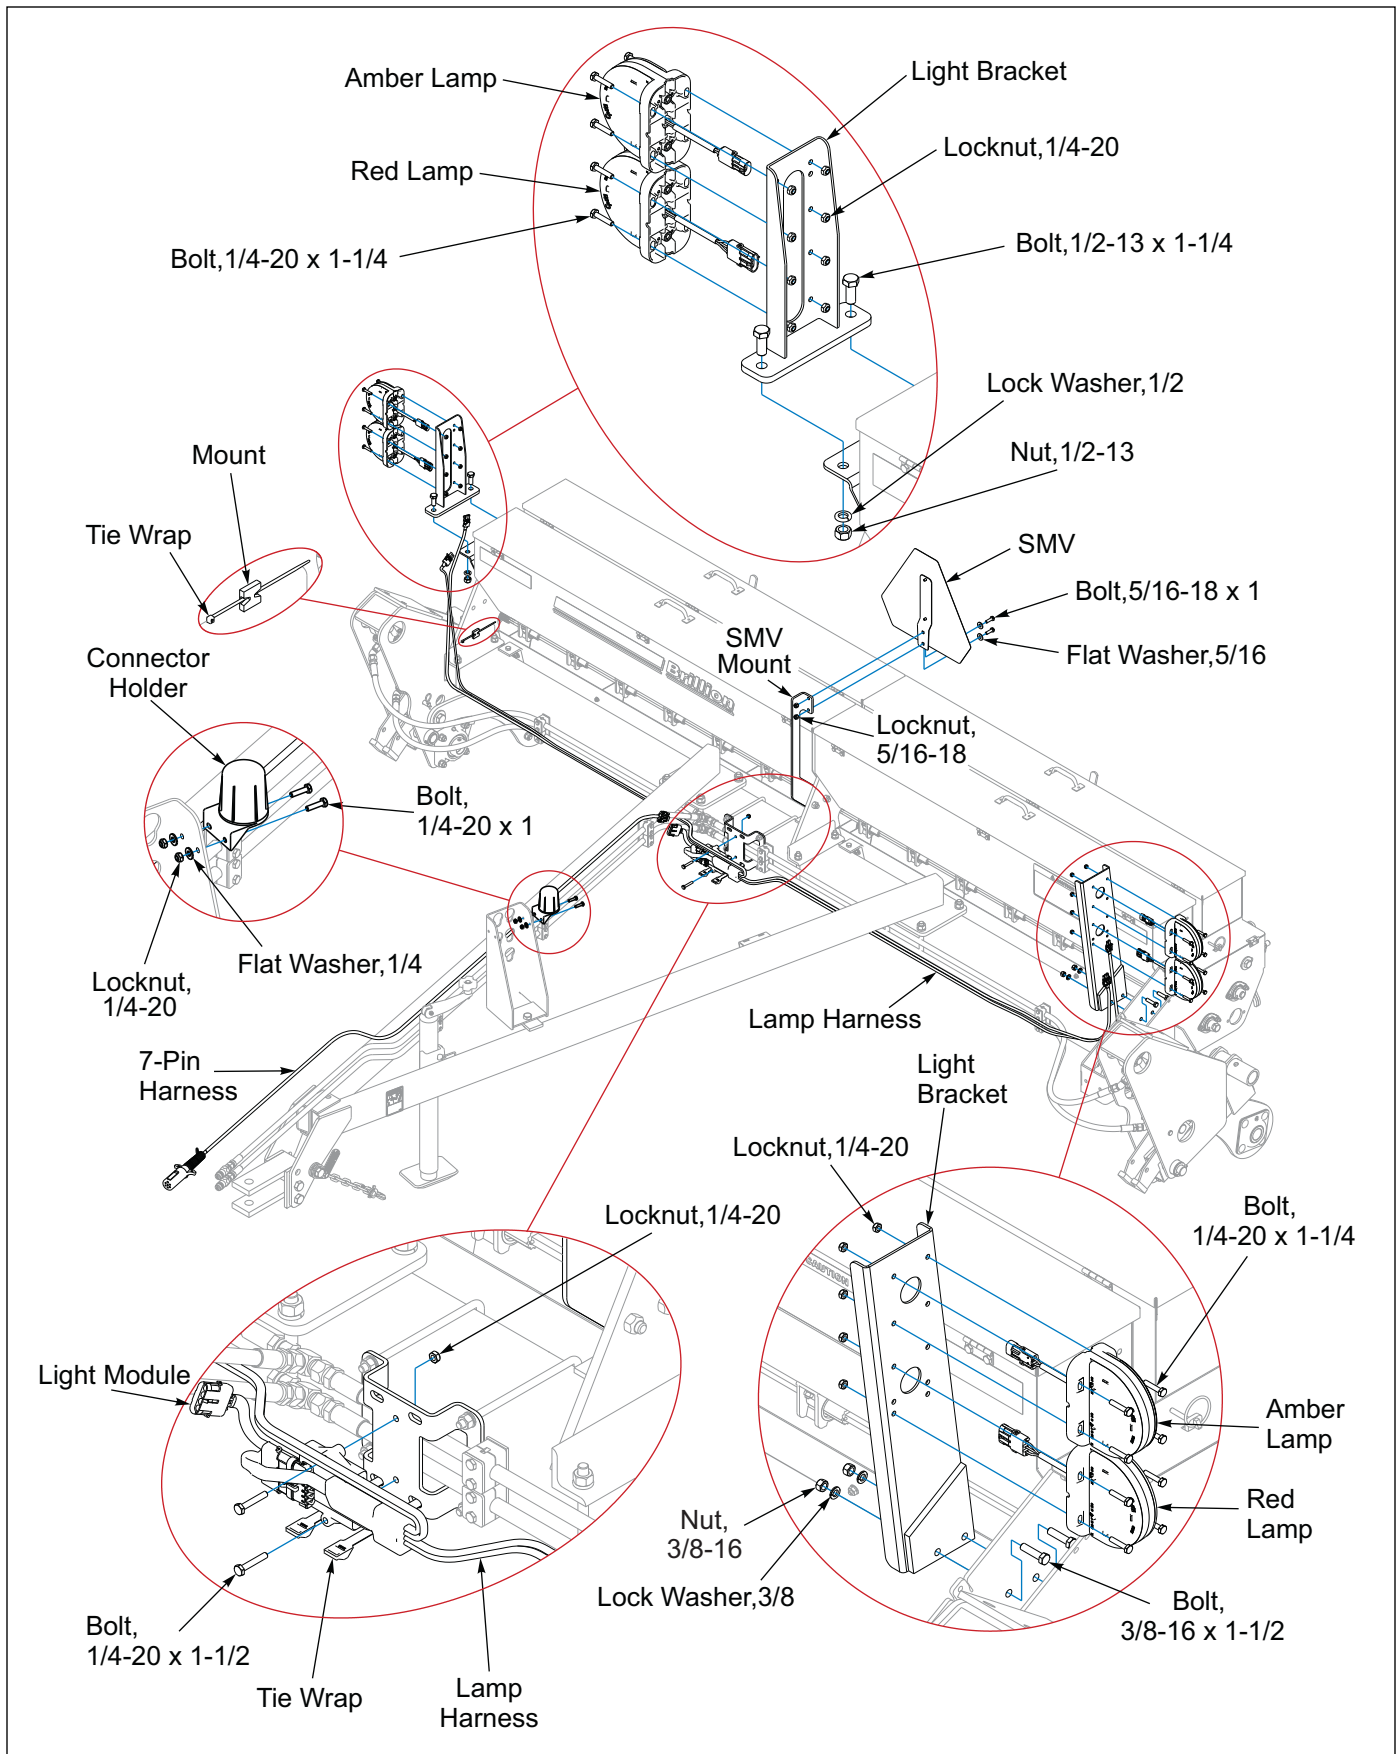

Figure 2-15: Warning Lamp Installation, 8FT and 10FT
1. Attach longer Light Bracket to the Transmission located on the left side of the Seeder, with 3/8-16 x 1-1/4 Bolts, Lock Washers and Nuts. **See Figure 2-15.**